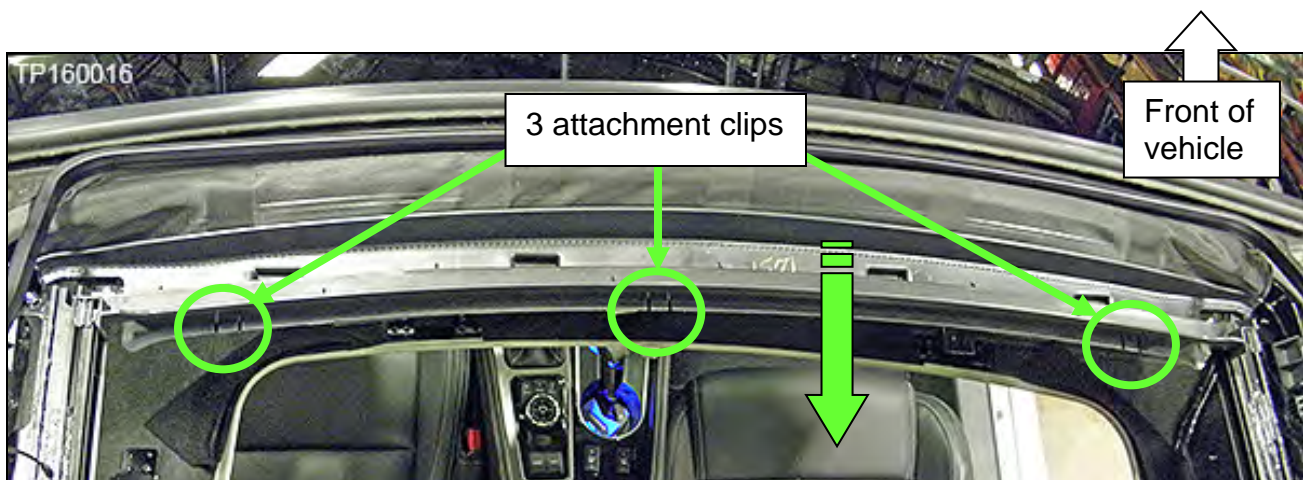

Figure 21
- a. Gently lift the 3 attachment clips with a small screw driver one at a time (Figure 21).
- b. Slide the wind deflector assembly toward the rear of the vehicle to release it from the Moonroof frame (Figure 21).
5. Slide the wind deflector toward the front of the vehicle and snap the 3 attachment clips (shown in Figure 21) into the Moonroof frame.